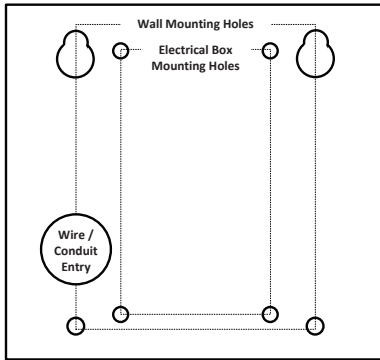

Figure 1
- Using the backplate as a template, mark and drill the 4 mounting holes and the wire or conduit entry hole (see Figure 1). Insert the (4) 1/4 x 1" wall anchors, then partially install the top two #10 x 1" screws.